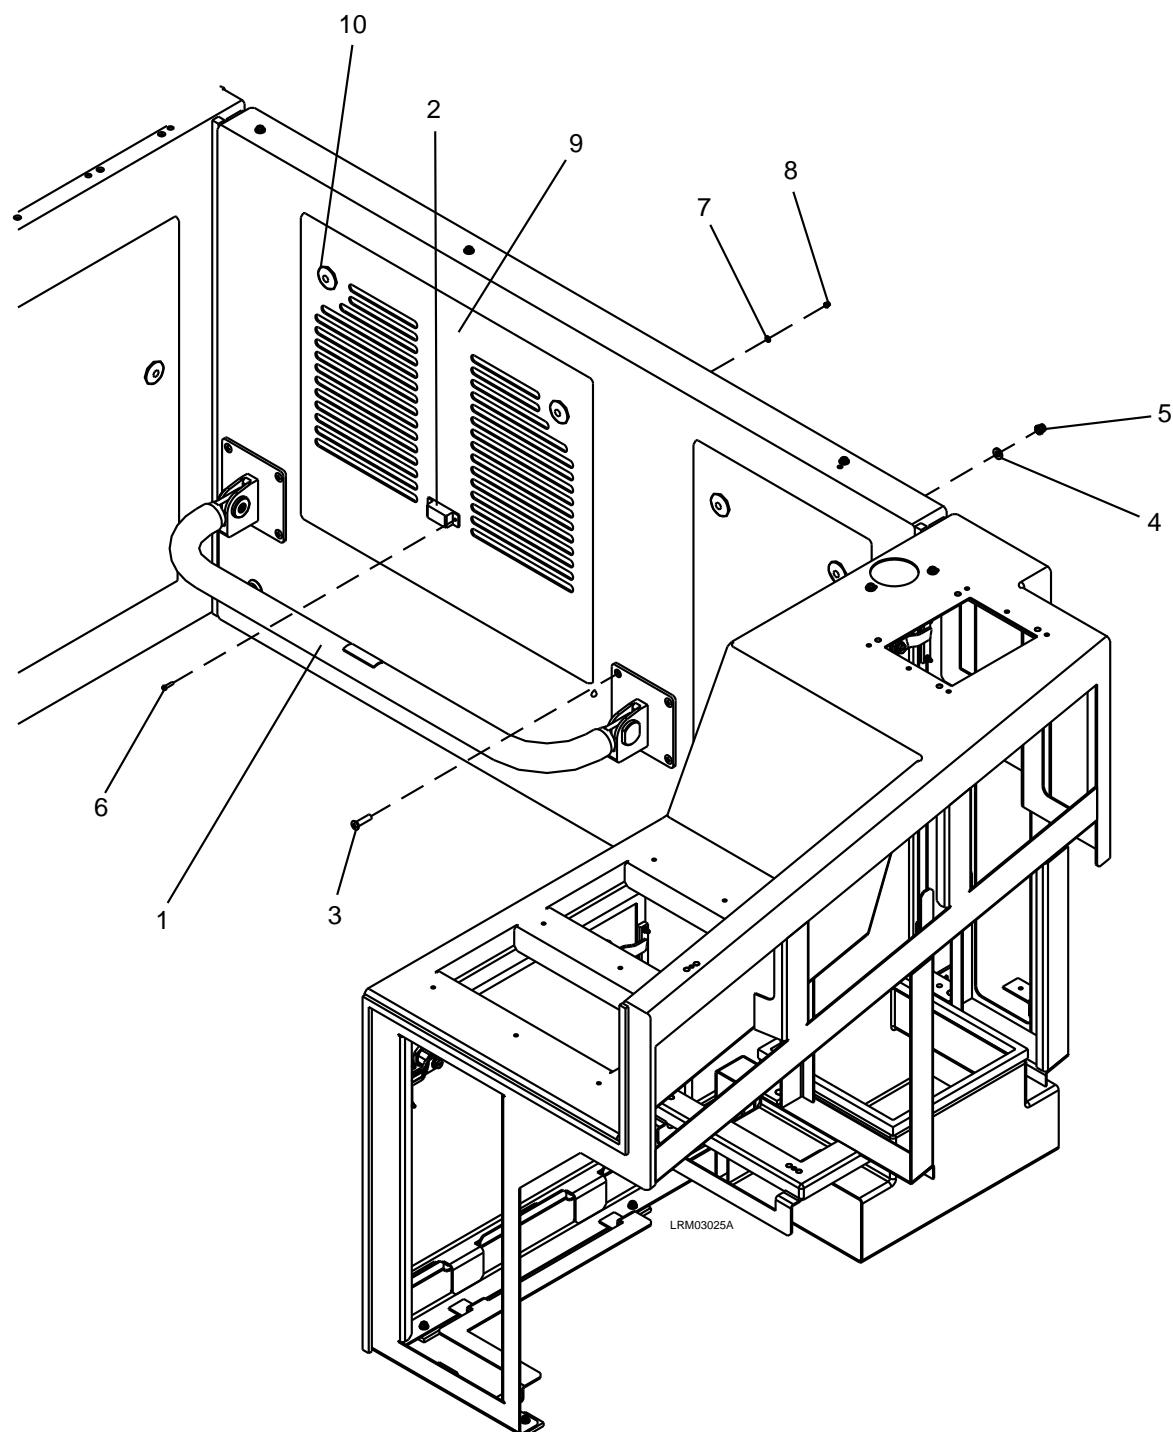

Figure 7-21: Foot Rest
1. Unlock the two locks (10) and remove the access cover (9). See Figure 7-21.
2. Remove the eight M6 ESNA nuts (5), M6 plain washers (4) and M6 x 25 screws (3).
3. Carefully remove the Foot Rest (1).
4. Remove the two M3 ESNA nuts (8), M3 plain washers (7), and M3 x 12 screws (6).
5. Remove the magnetic catch (2).